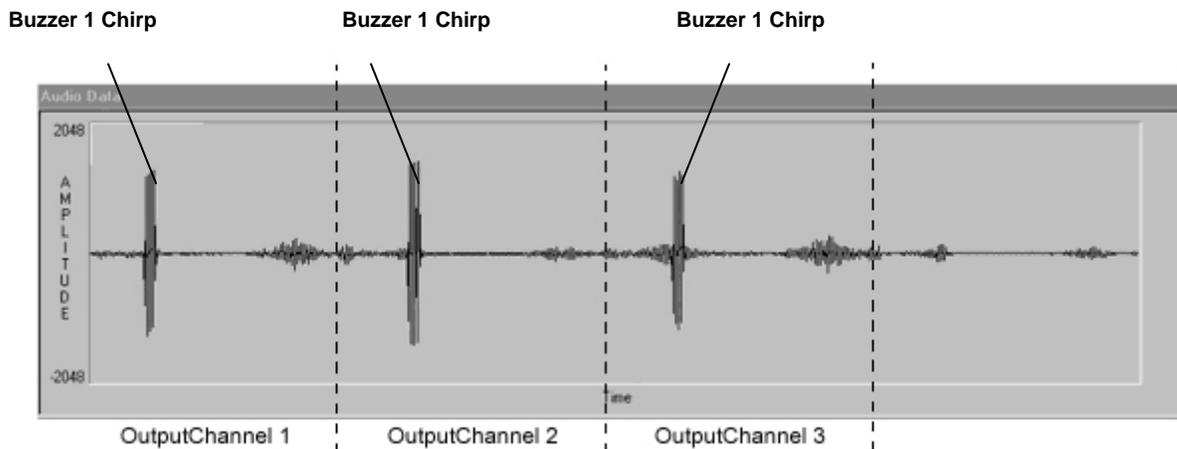

Figure 9-9 - Channel 1, Mic 1 Test
- The test is performed by starting and stopping the mic test in rapid succession. Select “Test Mic 1” from the “Audio A/D” menu and immediately deselect the audio test (Tests > Audio Test). *Figure 9-9 - Channel 1, Mic 1 Test* displays the result of the tone generated from the audio test source.